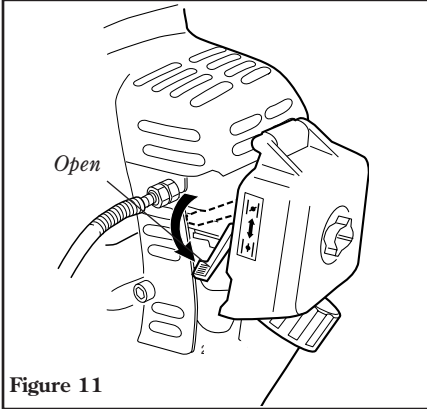

Figure 11
- When the engine starts, slowly move the choke lever to the "OPEN" position. See Figure 11. (If the engine stops after the initial start, close the choke and restart.)